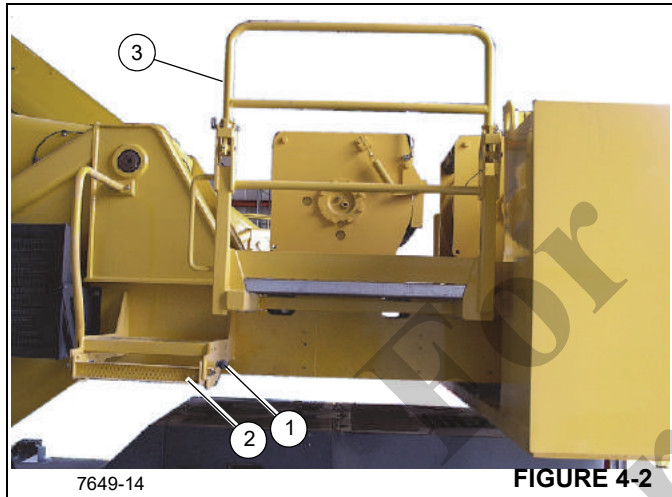

FIGURE 4-2
Configure the hoist access area from the Travel Position (Figure 4-1) to the Working Position (Figure 4-2).
2. Pull the step locking pin out, slide the step (2) in to the travel position and release the lock pin to secure the step in travel position.
Place the hoist access platform hand rail (1) (Figure 4-2) and step (2) (Fixed counterweight units only) into the working position:
1. Pull out on the step locking pin (1) (Figure 4-2), slide the step (2) out to the working position and release the locking pin into the locking hole.
2. Remove two locking pins from hand rail (3) and rotate it up into the working position, reinstall pins.